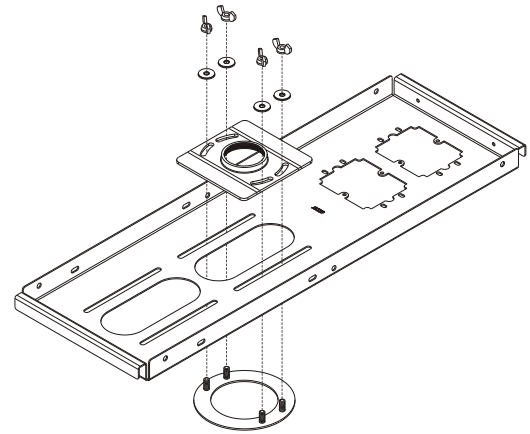

Figure 1. Center Bolt Ring Attachment
1. Insert the center bolt bracket from the under-side of the ceiling tray (see Figure 1).